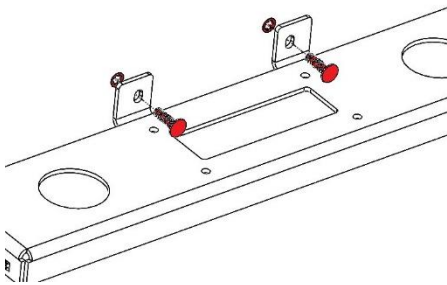

Figure 6
25. Install 2x M12x45 carriage bolts (*the longer M12 carriage bolts*) and push nut retainers into the fairlead mount holes of the winch plate. **Figure 6**